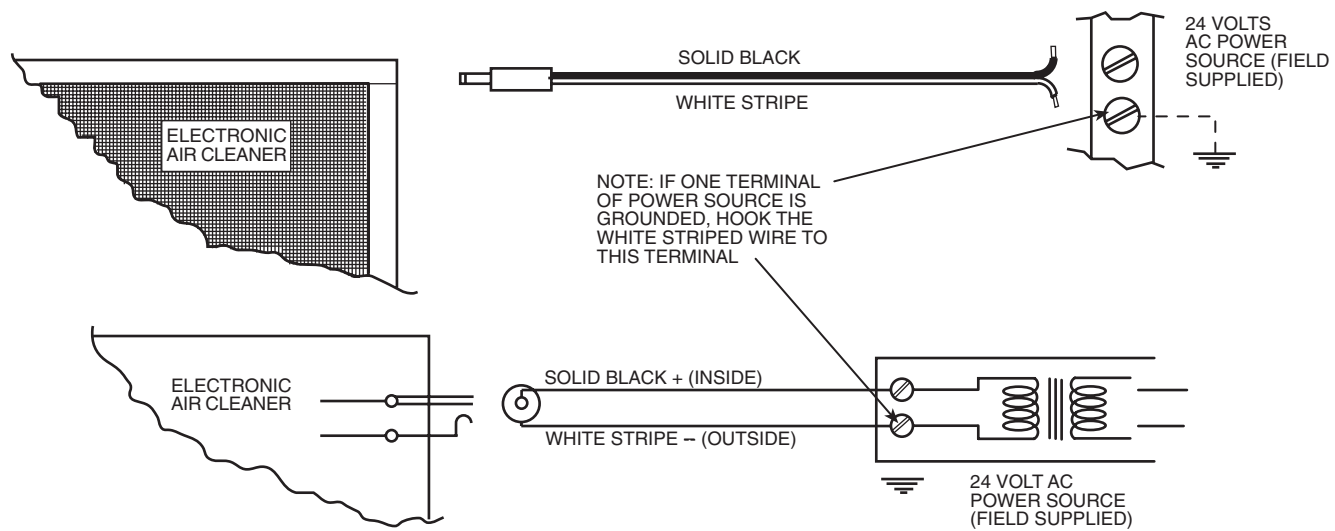

Fig. 2 — Power Supply Wiring
3. Wire electrical power plug to 24 VAC (2 va) power source (field supplied). Most forced-air heating or cooling systems have an internal 24 VAC power source to which the electronic air cleaner can be safely connected without overloading other circuits. Before wiring the electronic air cleaner to the power source, check with a voltmeter that the source does not exceed 30 VAC. See Fig. 2.